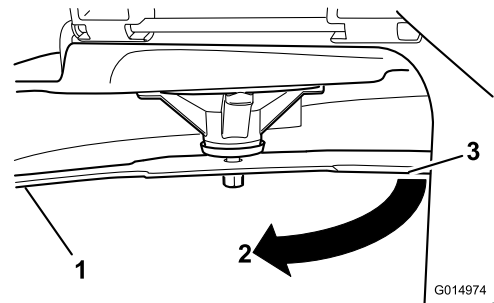

Figure 47
4. Rotate the same blade 180 degrees so that the opposing cutting edge is now in the same position (Figure 47).